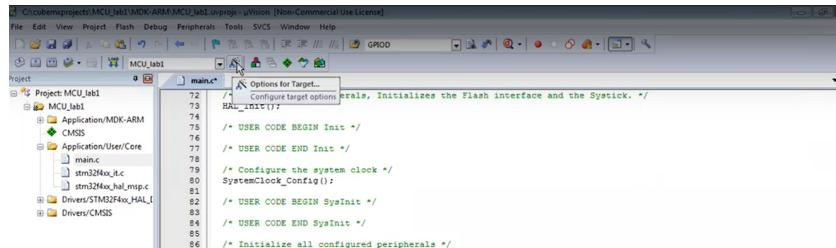
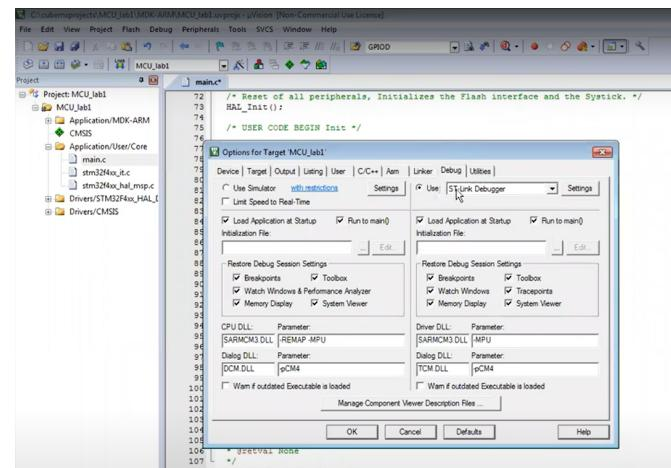

Figure 15
Figure 16
10. Select “Options for Target” menu (Figure 15). Come to the “Debug” menu and select “ST Link Debugger” and Settings respectively (Figure 16). Then we choose “Reset and Run” from “Flash Download” so that when we run our code, it will reset its previous